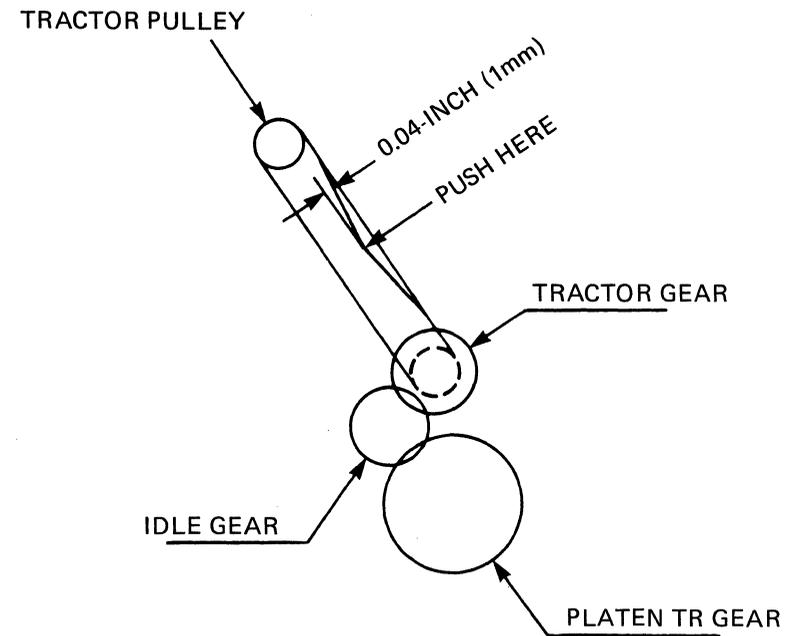

Figure 5-11 Bidirectional Forms Tractor Belt Tension and Idler Gear Backlash Adjustments
- b. Push at the center of the belt with a force of 0.6 to 1 oz. (20 to 30 grams). The belt should deflect approximately 0.04-inch (1 mm) (see Figure 5-11).